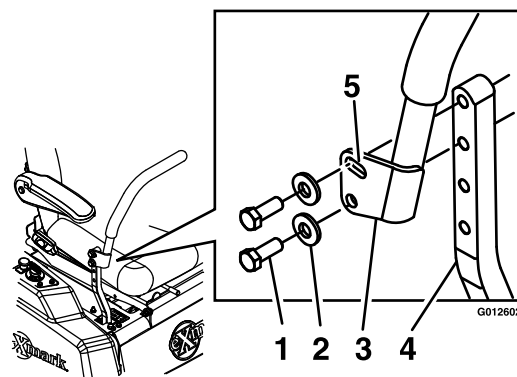

Figure 30
1. Remove the hardware holding the control lever to the control arm shaft (Figure 30).
2. Loosen the lower bolt just enough to pivot the control lever fore or aft Figure 30. Tighten both bolts to secure the control in the new position.